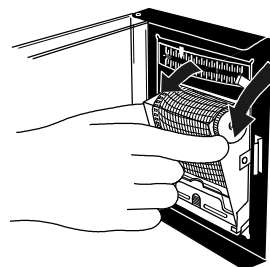
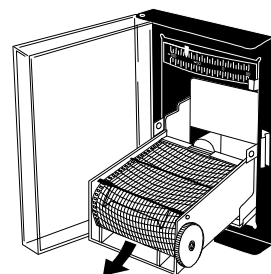

Fig. 1
Fig. 2
2. Pull the cartridge out of the mounted position as shown in Fig. 1 and Fig. 2.